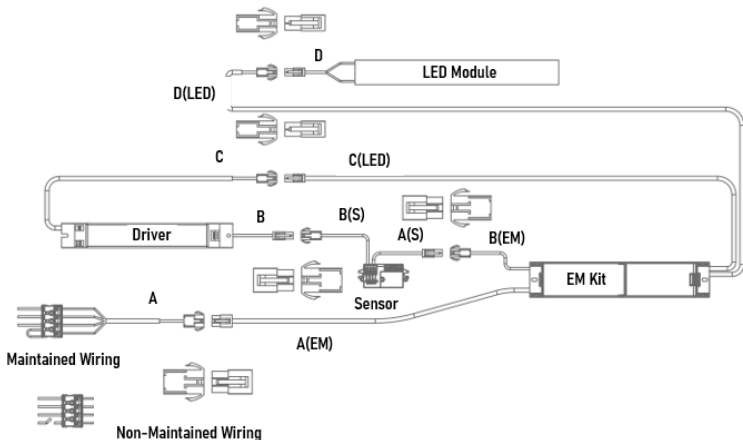

**Fig. 1**
- Ensuring correct polarity is observed, carefully wire as shown in Fig. 1 for suitable modular fitting. Two cables can be inserted into the push-fit terminal block in order to achieve loop-in/loop-out wiring